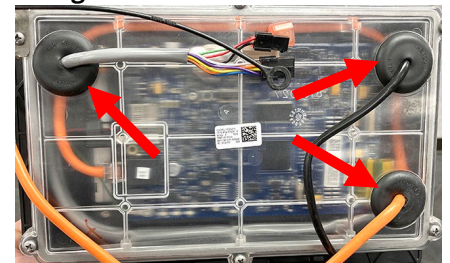

Figure 15
17. Push in on all grommets to ensure they are securely attached to the rear cover (see Figure 15).